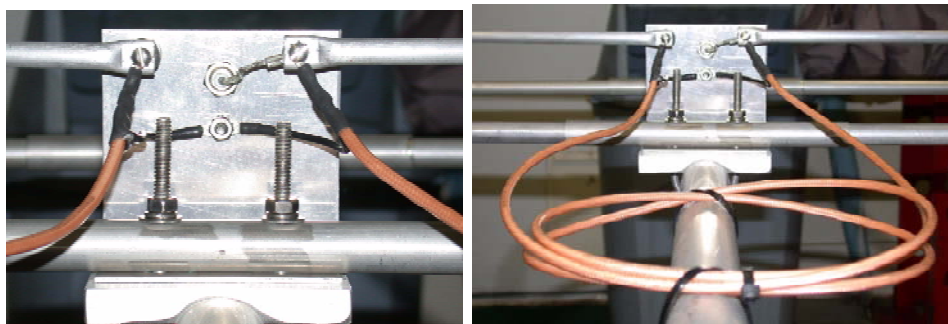

Figure 3
- Connect both ground wires from both ends of the balun to the grounding screw just below the connector. Place a lock washer on the stud first, then both lugs, another lock washer and then the nut and tighten. Refer to Figure 3 for details.